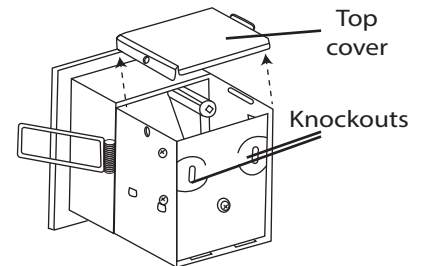

Figure 2
4. Insert supply power wire through knockout hole and strain relief on side of housing then tighten screws. See Figure 2.